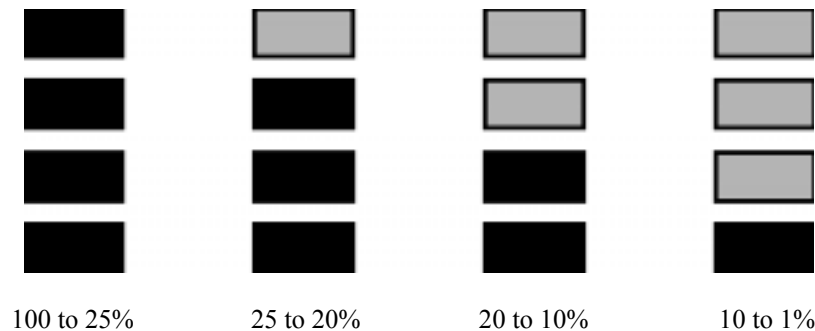

Figure 4. Battery Voltage Status Indications
**Battery Level Indicator:** The GA-92XT locator displays the current battery level with a 4-segment LCD indicator. As shown in Figure 4, when all four segments are black the voltage level is between 100% and 25% (up to 24 hours of operation with intermittent usage). As the voltage decreases, the number of black segments decreases. Battery life varies with usage and the ambient temperature. Cold temperatures reduce battery life. Low temperatures may result in only two or three segments being black. This could be temporary and all segments will change back to black as the temperature increases.